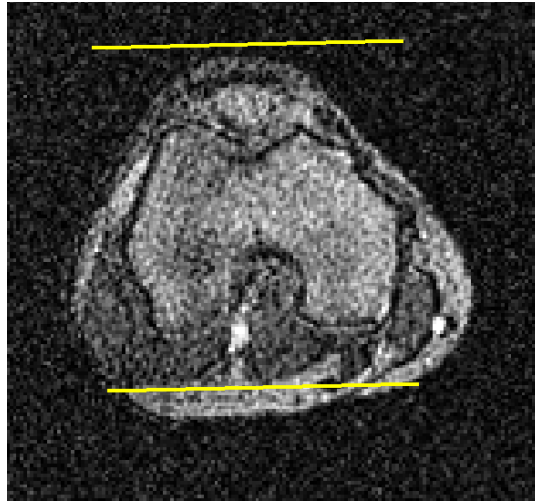

Figure 3
2. Slice coverage must include all of the Femur including the condyles, Tibia and Patella as shown in Figure 3